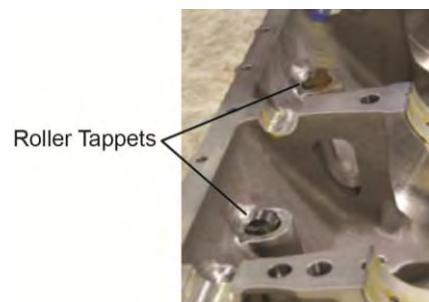

Figure 52
- (2) Before installation, apply lubrication to the roller tappets per the latest revision of Service Instruction Nos. SI-1011 and SI-1059.
- (3) Install serviceable hydraulic roller tappets in each crankcase half during assembly.
- (4) Lubricate the camshaft lobes and the faces of the roller tappets (Figure 52) per the latest revision of Service Instruction No. SI-1059.